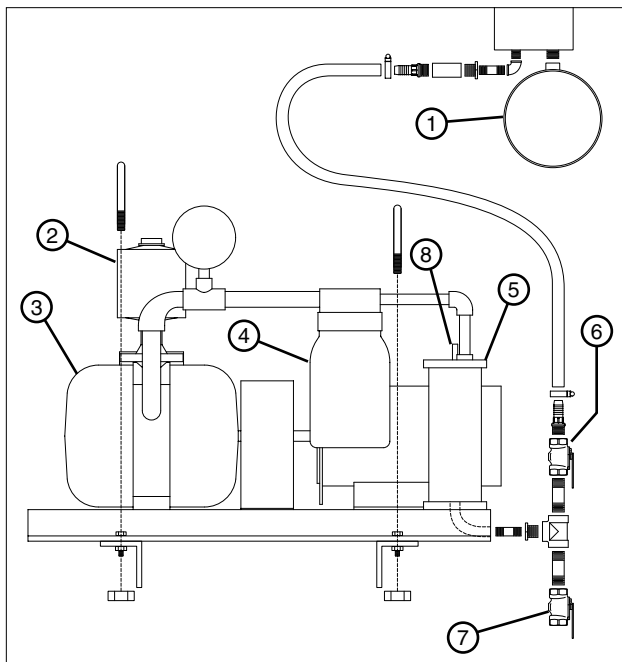

Figure 60-2 1. Suction Inlet Pipe 5. Water Trap
2. Depress the manual plunger on top of the water trap to allow water to draw-down. See Figure 60-2.
3. If necessary, open the drain cock valve for full drainage. See Figure 60-2.